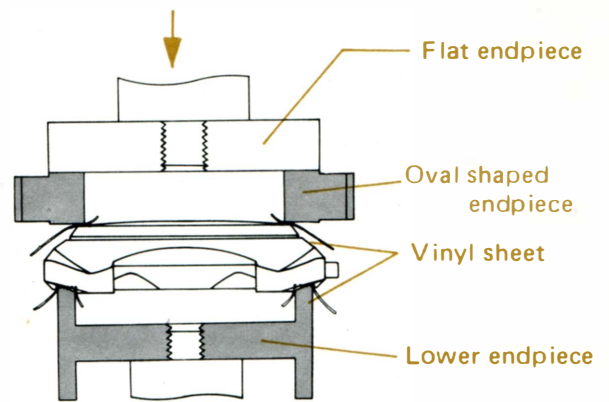

Fig. 4
- b. Select an oval endpiece which fits the outer perimeter of the glass upper surface and a lower endpiece which fits the watchcase and set the oval endpiece, the watchcases and set the lower endpiece as shown in Fig. 4.